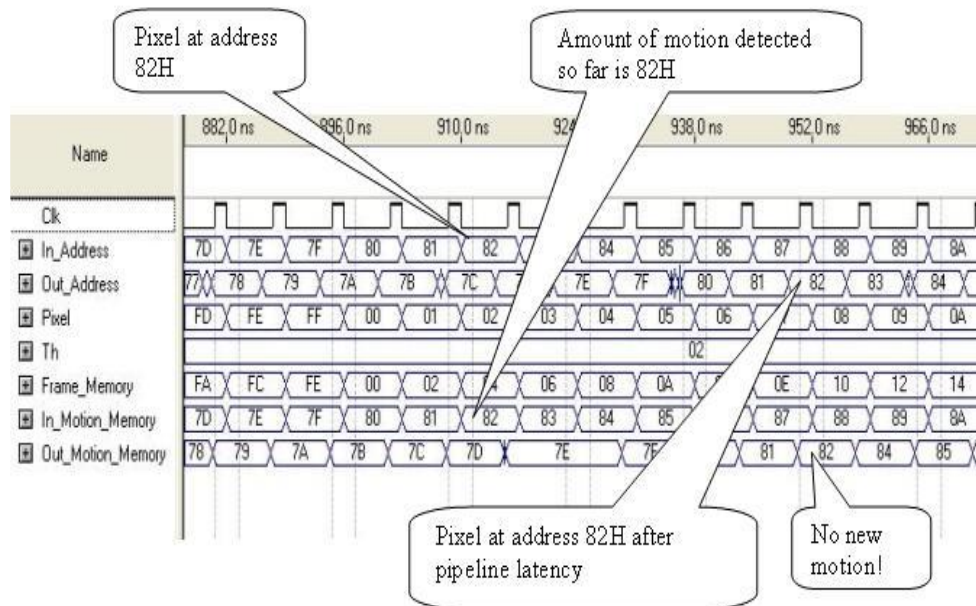

Figure 4: Clouds over the waveform
- Draw clouds on the waveform with explanations of what is happening (Figure 4).